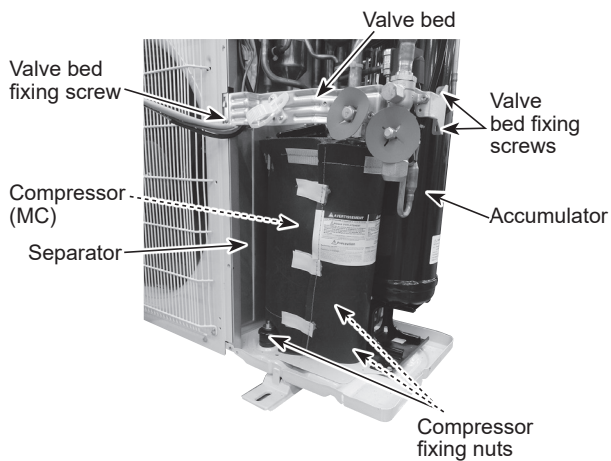

Figure 3
7. Remove the side panel (R). (Refer to procedure 6-7)
9. Remove 3 separator fixing screws (4 × 10) and remove the separator. (See Figure 3)